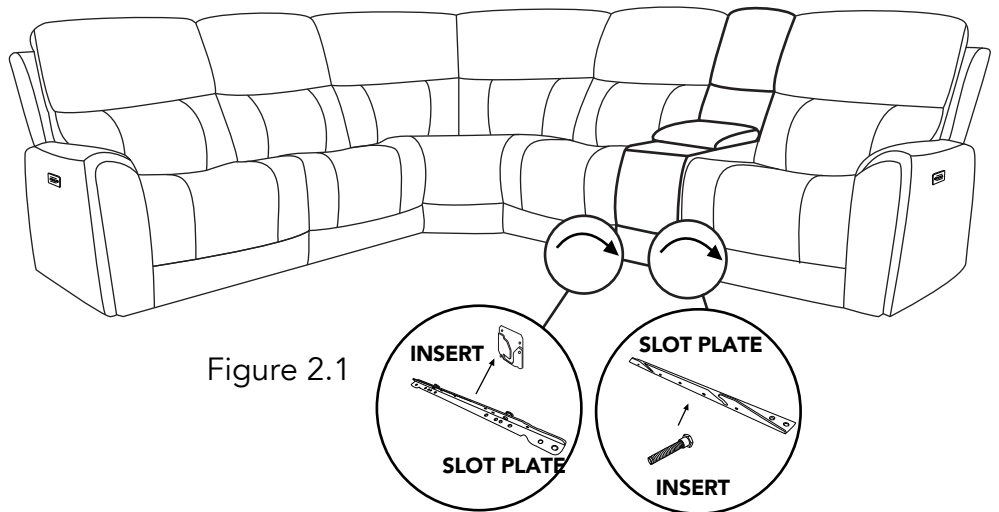

Figure 2.1
- 2 You can connect two or more recliners by connecting each position with male and female buckle as Figure 2.1 illustrated. (See Figure 2.1)**
- 2** Attach the Back (1) to the Seat (2). Ensure the latches fit well. (See Figure 2.1)